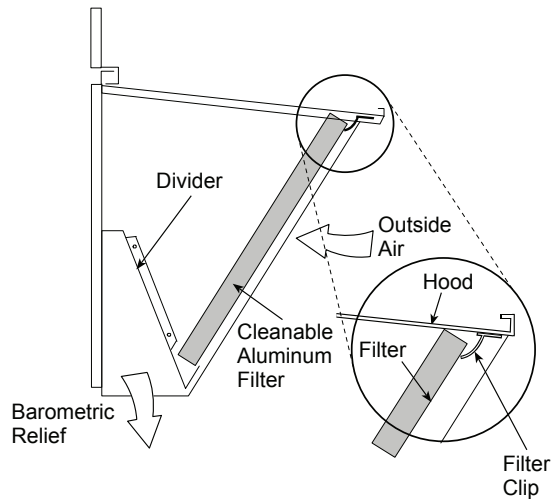

Fig. 14 — Economizer Filter Installation
5. Open the filter clips which are located underneath the hood top. Insert the aluminum filter into the bottom filter rack (hood divider). Push the filter into position past the open filter clips. Close the filter clips to lock the filter into place. See Fig. 14.